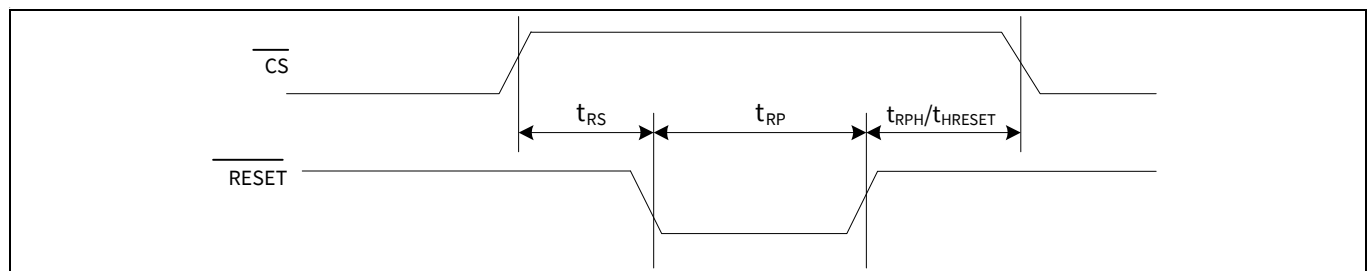
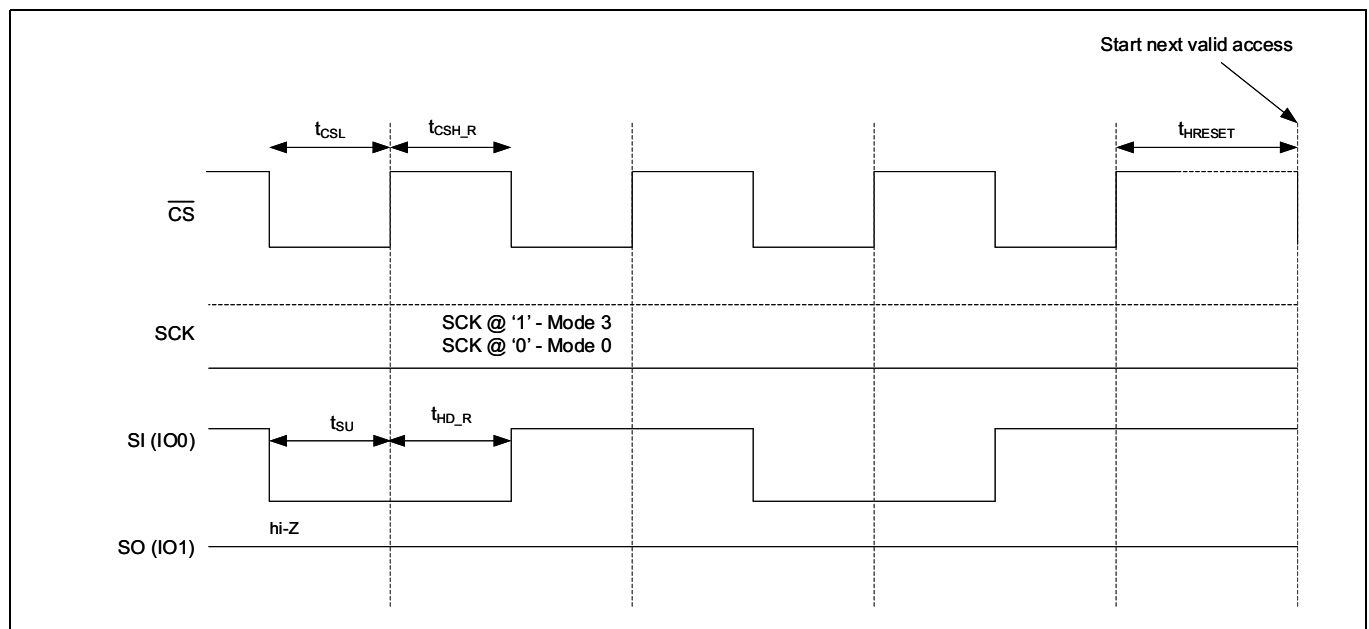

Figure 109 $\overline{\text{RESET}}$ timing - SPI with quad set (CR1[1] = 1) or QPI enabled (CR2[6] = 1)
Figure 111 JEDEC SPI reset
The hardware reset input ($\overline{\text{RESET}}$) is multiplexed on ($\overline{\text{RESET}}$ / I/O3) and is an active LOW signal in CY15x116QSN device. Refer to Table 21 for hardware reset ($\overline{\text{RESET}}$) pin configurations across various SPI interfaces. When $\overline{\text{RESET}}$ is pulled LOW, CY15x116QSN self initializes and brings its configuration back to the power up status. Refer to Table 59 for different registers configuration after $\overline{\text{RESET}}$ cycle. Once $\overline{\text{RESET}}$ is issued, CY15x116QSN takes $t_{\text{RPH}}/t_{\text{HRESET}}$ time from $\overline{\text{RESET}}$ rising edge to complete the reset cycle. CY15x116QSN becomes inaccessible during t_{RPH} time. Figure 109 to Figure 111 show the $\overline{\text{RESET}}$ timings in different reset mode.
- The $\overline{\text{RESET}}$ pin is multiplexed on I/O3 in the QPI mode. When using the hardware ($\overline{\text{RESET}}$) in QPI mode, the CR2 [5] bit must be set to '1' to enable to use I/O3 as $\overline{\text{RESET}}$ input when $\overline{\text{CS}}$ is HIGH. Figure 109 shows the $\overline{\text{RESET}}$ / (I/O3) timing in QPI mode
Refer to Figure 111 for timing details.